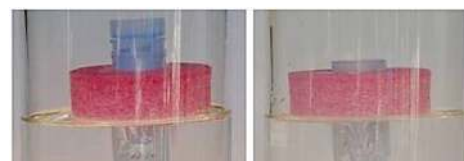

Figure 2: DiaEasy™ Dialysis floating rack in two positions to change the height at which the DiaEasy™ Dialysis tubes are held.
- IMPORTANT: Adjust floating rack height on 10 ml DiaEasy™ Dialyzer tube for upright floating balance during dialysis process. Example: For dialysis of less than 5 ml place the floating rack upto middle the height of the 10 ml DiaEasy™ Dialyzer tube. For dialyses of more than 5 ml adjust the floating rack at the top of 10 ml DiaEasy™ Dialyzer tube (see Figure 2)